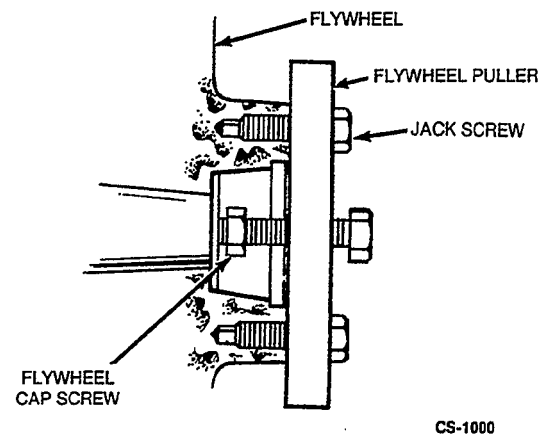

FIGURE 6-5. FLYWHEEL PULLER
7. Attach the puller tool to the flywheel (see Figure 6-5). The tool has two jack screws that fit into the holes tapped in the flywheel.